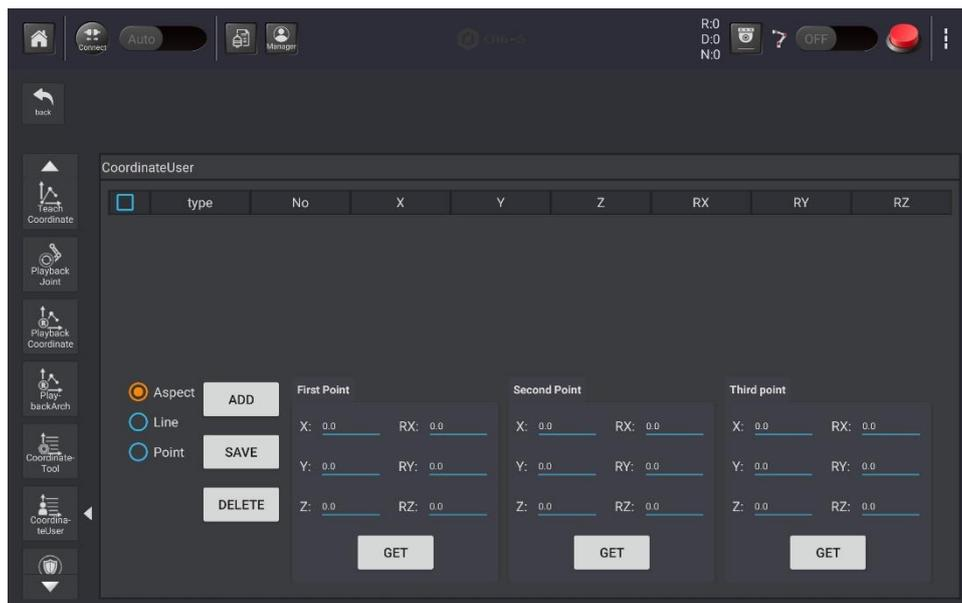

Figure 5.10 User coordinate system
**Step 1** Click **Coordinate User** on the **Setting** page. As shown Figure 5.10.